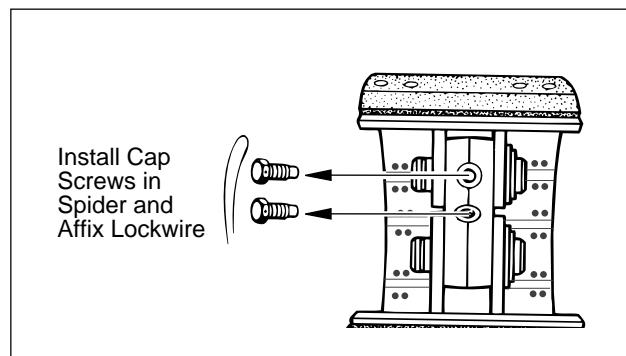

Figure 81. Lower Shoe and Anchor Pin Installation
11. Install cap screws in spider to secure anchor pins. Tighten screws to proper torque, see Specifications chart, then lock wire. Refer to Figure 81. **T**